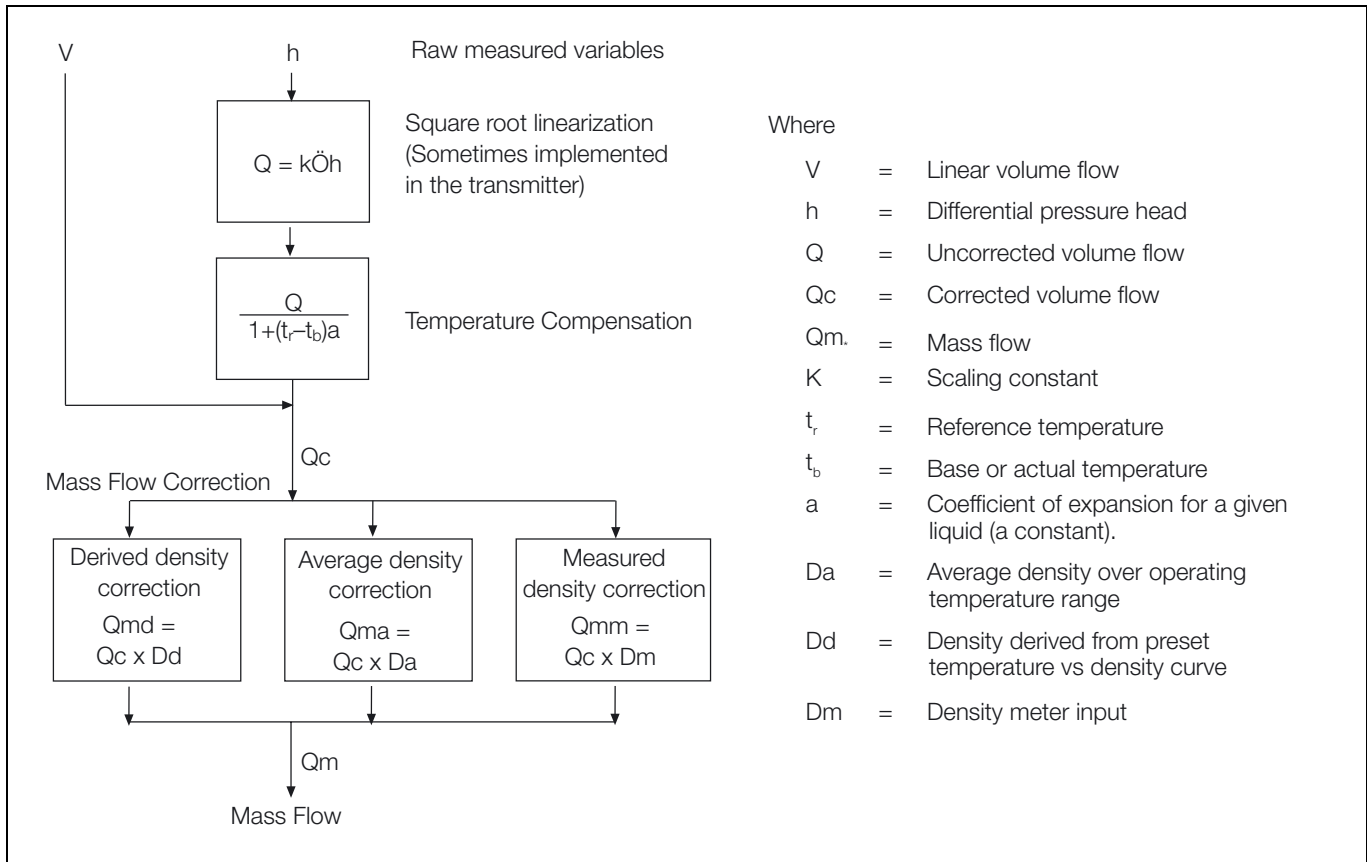

Fig. 2.12 Temperature and Density Compensation
2.10.1 Liquid Flow – Fig. 2.12
Corrections can be applied to compensate for variations in temperature and density – see Fig. 2.12, page 16.